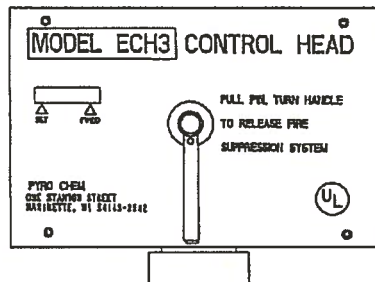

Figure 2-6. Electric Control Head.
- The Model ECH3 electric control head is an electrically operated control head which can be connected to the PCI-15/17/25s/35/50s/70 cylinder valve. This control head will support an electric thermal detection system, a remote mechanical pull station (Model RPS-M), and an electric gas shut-off valve. It will not support a fusible link detection system. A micro switch (Model MS-DPDT) is included. The Model ECH3 control head is available in both 120 VAC (Model ECH3-120) and 24 VDC (Model ECH3-24). It is equipped with a local manual control handle that allows for mechanical system actuation. Operation of the local manual control requires removing the pull pin and rotating the handle clockwise. The Model ECH3 control head can actuate a maximum of five (5) cylinders. See Figure 2-6.